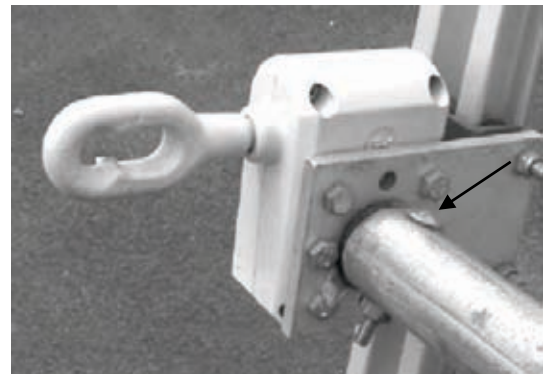

Figure 8
- Attach the roll-up conduit to the square shaft of the Twist-of-the-Wrist assembly by inserting a carriage bolt through the hole in the conduit and tubing adapter (Figure 8). Tighten the nut.